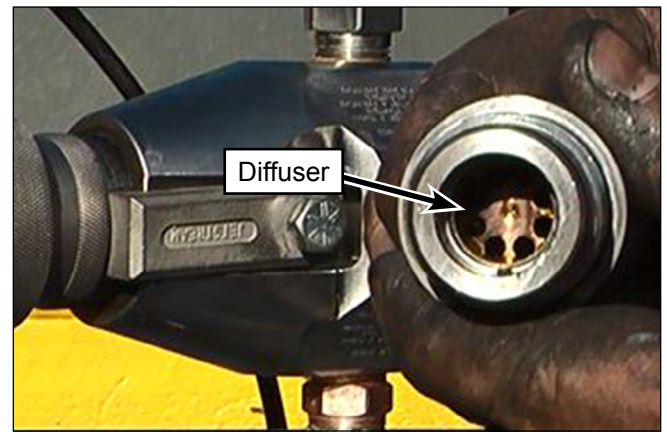

Figure 102: Inspect Diffuser.
4. Inspect the diffuser (Figure 102) for jetting damage. Replace if damage is extensive.